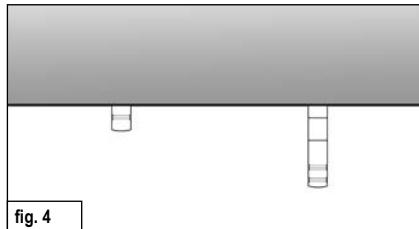

fig. 4
Adjust primary and secondary air.	Close primary air slider (I), set secondary air slider (II) between position 2 and 3. (fig. 4)